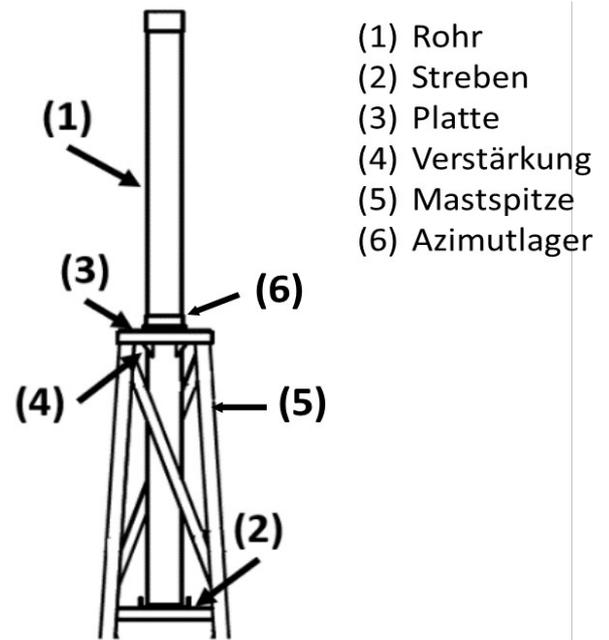

Figure 3 – Nacelle connection
Figure 3 shows the nacelle connection. It consists of a tube, a three-part azimuth bearing and the upper part of the mast. **For this purpose, it is mandatory that the mast [1.1] has been manufactured beforehand.** The tube is mounted on the internal struts and passes through the top plate. This plate is welded to the upper frame with short welds. It serves as a guide for the tube and bearing surface for the lower axial thrust bearing. The nacelle tube is pushed onto the protruding tube (1).